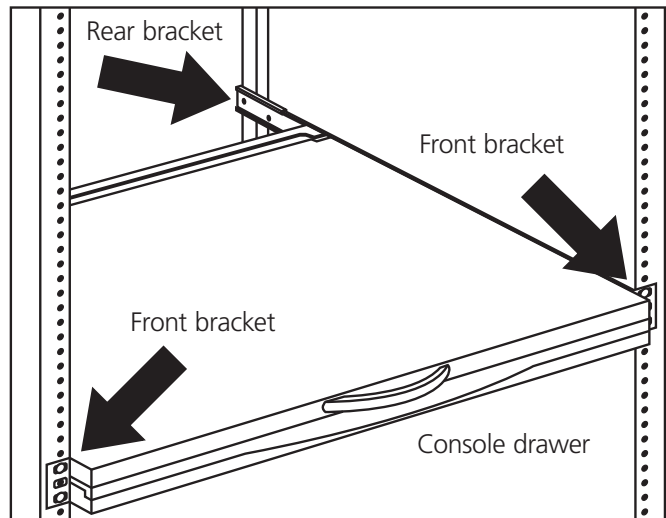

Figure 3-8. Securing the console drawer to the cabinet's front brackets.
5. Use four 10-32 or 12-24 screws (not included) to fasten the console drawer onto the front brackets. (See Figure 3-8.) The metal brackets shown in the figure support the console's rear side.